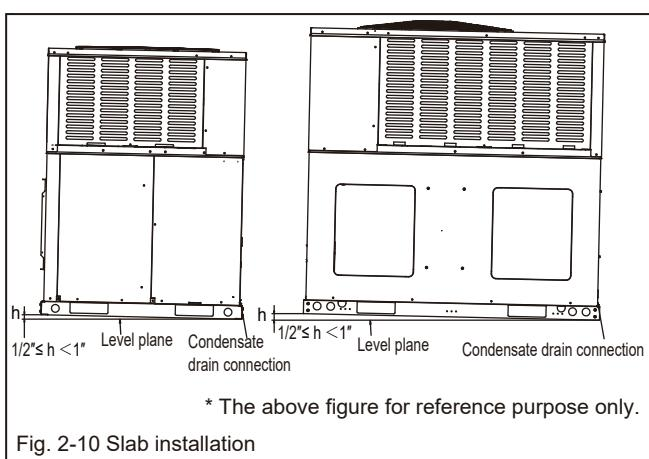

Fig. 2-10 Slab installation
Note: Make sure that Condensate Drain side is not higher than the other side (Fig.2-10).
6. Unit must be slightly inclined toward drain connection.(See Fig. 2-10).